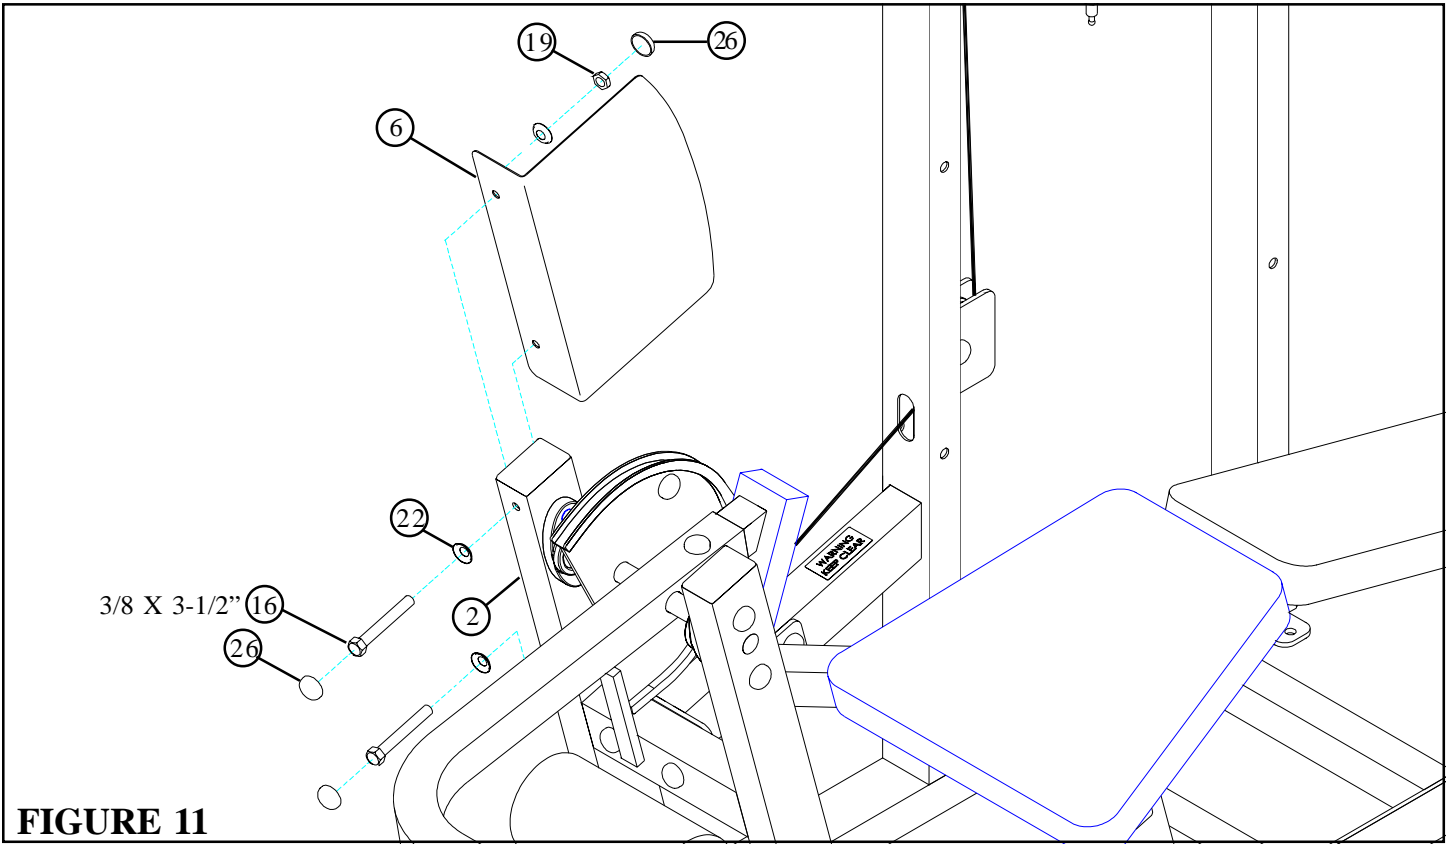

FIGURE 11
- **SECURELY** assemble the CAM SHROUD (6) to the LEG CURL SUPPORT (2) using two BLACK RH CAPS (26), two RH CAPS (38), two 3/8 X 3-1/2" BOLTS (16), four 3/8" RH WASHERS (22) and two 3/8" LOW HEIGHT LOCK NUTS (19) as shown in FIGURE 11.